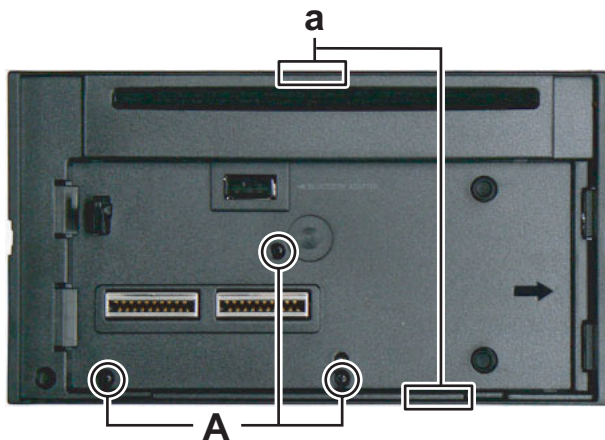

Fig.1
3.1.1 Removing the Front chassis (See Fig.1 and 2)
- (1) Remove the three screws **A**. (See Fig.1)
- (2) Disengage two hooks **a** engaged the Front chassis. (See Fig.1)